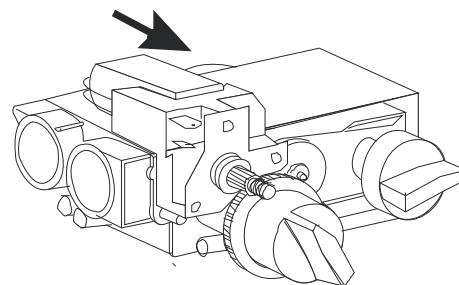
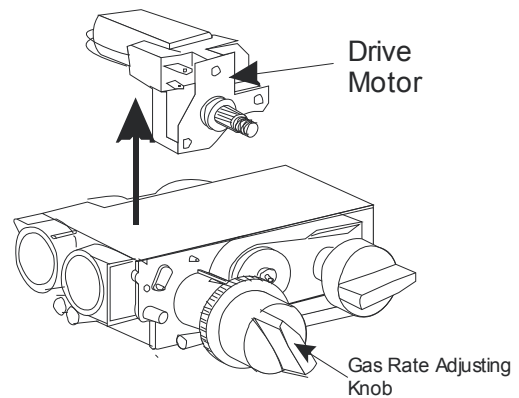

Figure 76
Figure 77
6. Turn the gas rate adjusting knob fully anticlockwise and gently manipulate the motor free from the valve (see note) (see **Figure 76** and **Figure 77**).